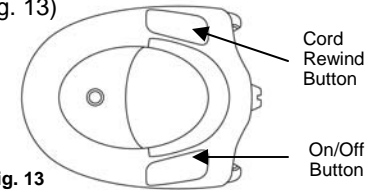

Fig. 13
2. Press the Power On/Off button to turn the vacuum cleaner "On". (Fig. 13)
3. To rewind the power cord, press the cord rewind button with one hand and hold the plug of the power cord with the other hand to ensure that it does not whip causing damage or injury. (Fig. 13)
- Press the power button and disconnect plug from electrical outlet. Then press on the cord rewind button. (Fig. 13)